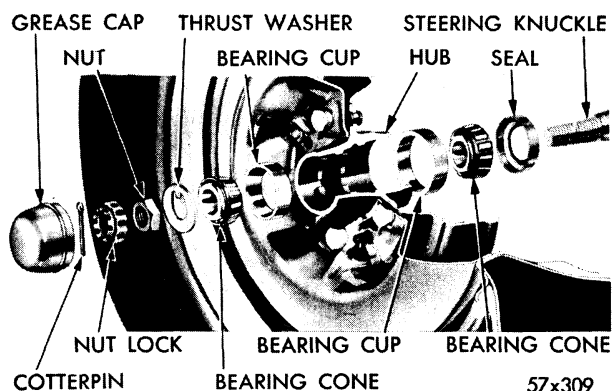

Fig. 35—Front Wheel Bearing Adjustment
18. ADJUSTMENT OF FRONT WHEEL BEARINGS (FIGS. 35, 36 and 29)
Selectively position the nut lock over adjusting nut so that the spindle cotter pin hole is in approximate alignment with one set of slots in nut lock, as shown in Figures 35 and 36, then back off (to next slot) adjustment (without removing nut lock) until the slots are aligned with cotter pin hole). Install cotter pin, grease cap and hub cap. Remove jack.